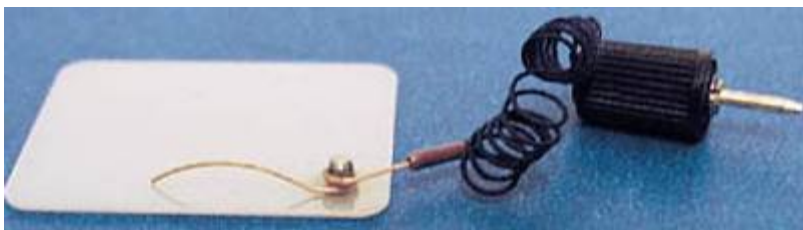

Fig. 2-63
- If an electric contact is to be provided between the sample and the instrument circuits, a special substrate with a spring contact must be used (Fig. 2-63);